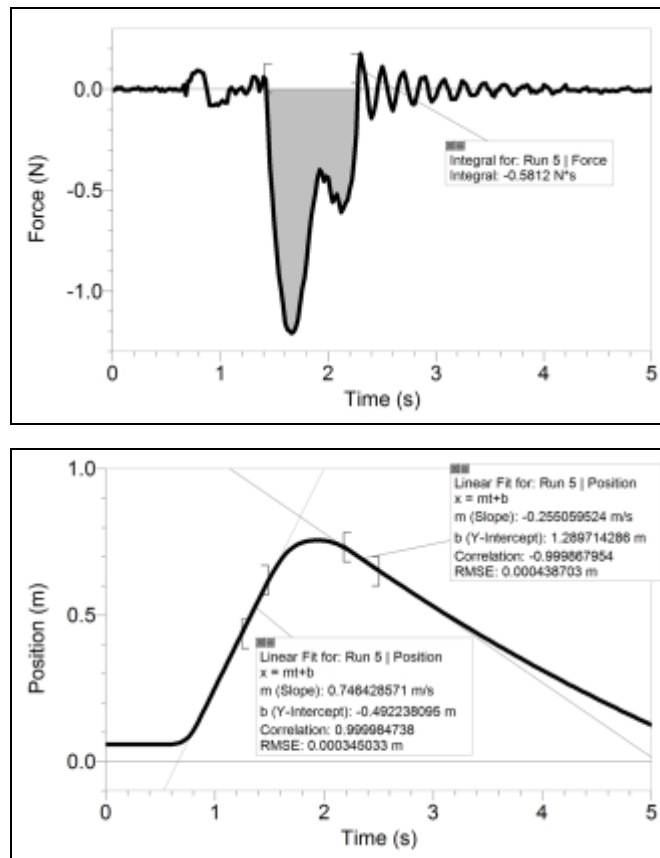

Figure 6 Determining impulse using the integral function and change in velocity from the slopes on the position graph
Figure 6 shows an example of a negative change in velocity and a negative impulse. Note that the velocity after the impulse is not constant, so the velocity very nearly after the collision is measured rather than the average velocity for the entire time interval shown.
5. The force reading may oscillate for a short time after the impulse. This is clearly seen in the force vs. time graph in Figure 6. If students are concerned about this, you can reassure them that the average force during that time is 0 (because the oscillations are about equally above and below zero). If they include this part of the graph in an integral, their impulse value will not be affected. However, if students are determining the average force and multiplying by the time interval, they should avoid selecting the oscillating portion of the graph, as this will reduce the average force determined by the Statistics function.